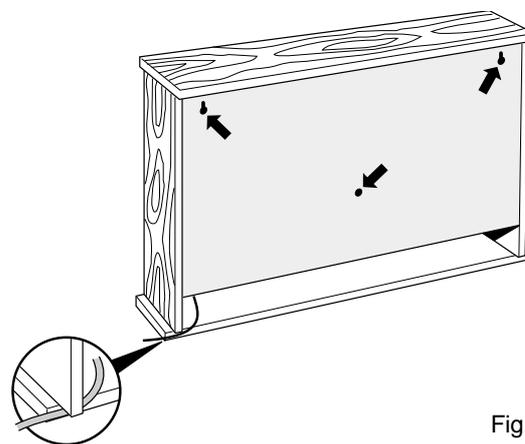

Fig. 2
1. Three wall fixing points are provided - see Fig. 2
- Replace the heater on the wall and use the third screw to fix the heater firmly to the wall, routing the mains lead through the appropriate cutout at the rear of the heater base (see Fig. 2).